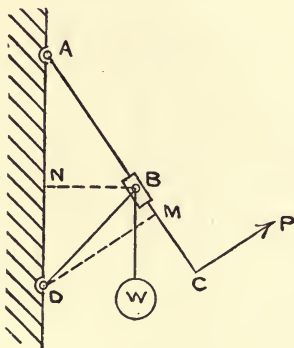

Fig. 1.
1. In the mechanism shewn in Fig. 1, the part  $B$  can slide without friction along  $AC$ . If the force  $P$  balances  $W$  prove that